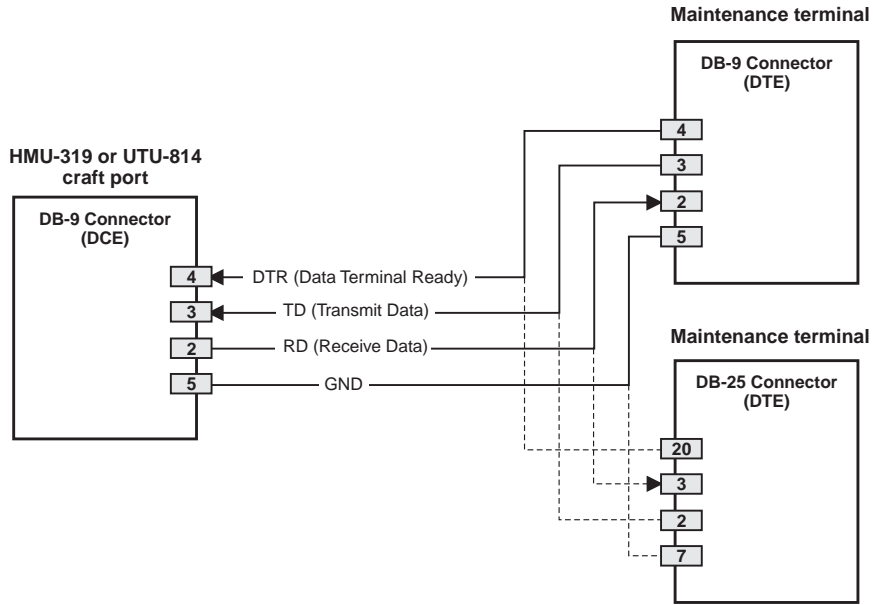

Figure 7. *HMU-319 Craft Port and Maintenance Terminal Connector Pinouts*
- 1 Connect a standard serial cable from the maintenance terminal communications (COM) port to the front-panel craft port of the HMU-319. The pinouts for the craft port and maintenance terminal connectors are shown in Figure 7 on page 10.